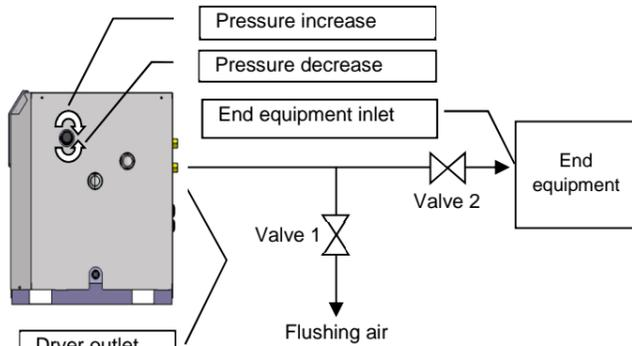

Fig.3 Example circuit
- With Valve 2 (see Fig.3 Example circuit) closed; open Valve 1 to perform flushing of the outlet piping.